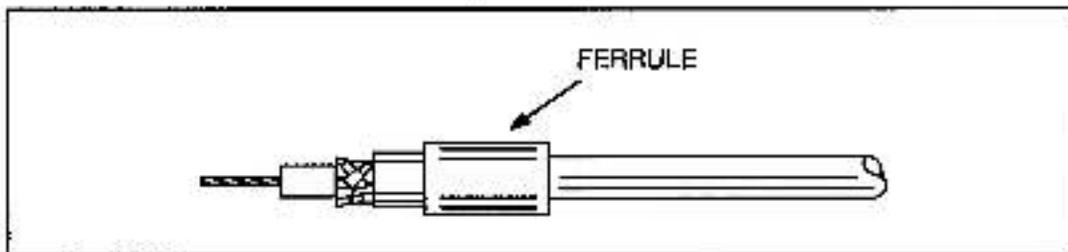

Figure 3.8 - Slide Ferrule onto RG-59/U Cable
- Step 1. After the cables have been installed in the conduit or cable trays, slide the ferrule onto the coax cable as shown in figure 3.8.